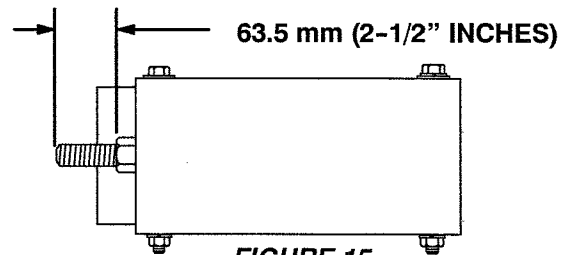

FIGURE 15
CONVEYOR BELT TENSION ADJUSTERS (See Figure 15 and Figure 16)
CONVEYOR BELT TRACKING AND CENTERING ADJUSTMENTS (See Figure 15 and Figure 16)
Step 11. Retension the new conveyor belt to the settings shown in Figure 15.